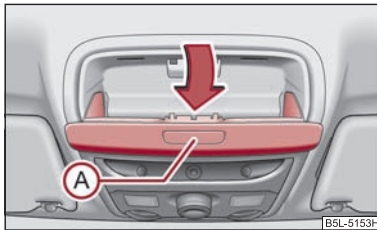

Fig. 93 Detail of the headliner: Stowage compartment for spectacles
- Press the button (A) ⇒ fig. 93, the storage compartment folds down.